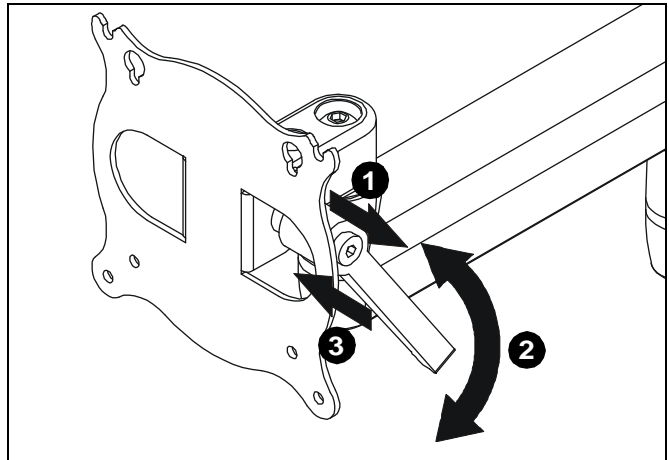

Figure 7
1. Pull entire handle out away from mount to allow handle position to be adjusted to be prior to pitch adjustment. (See Figure 7)
2. Adjust handle to desired position. (See Figure 7)
3. Push entire handle back towards mount prior to pitch adjustment. (See Figure 7)